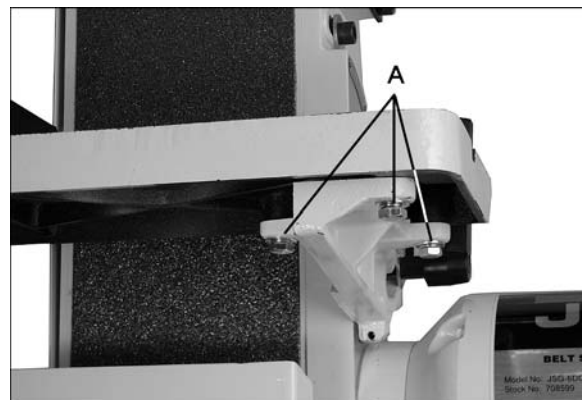

Figure 21
5. If the table is not parallel, loosen the screws below the table (A, Figure 21) with a 13mm wrench, and nudge the table until parallel. Re-tighten screws.